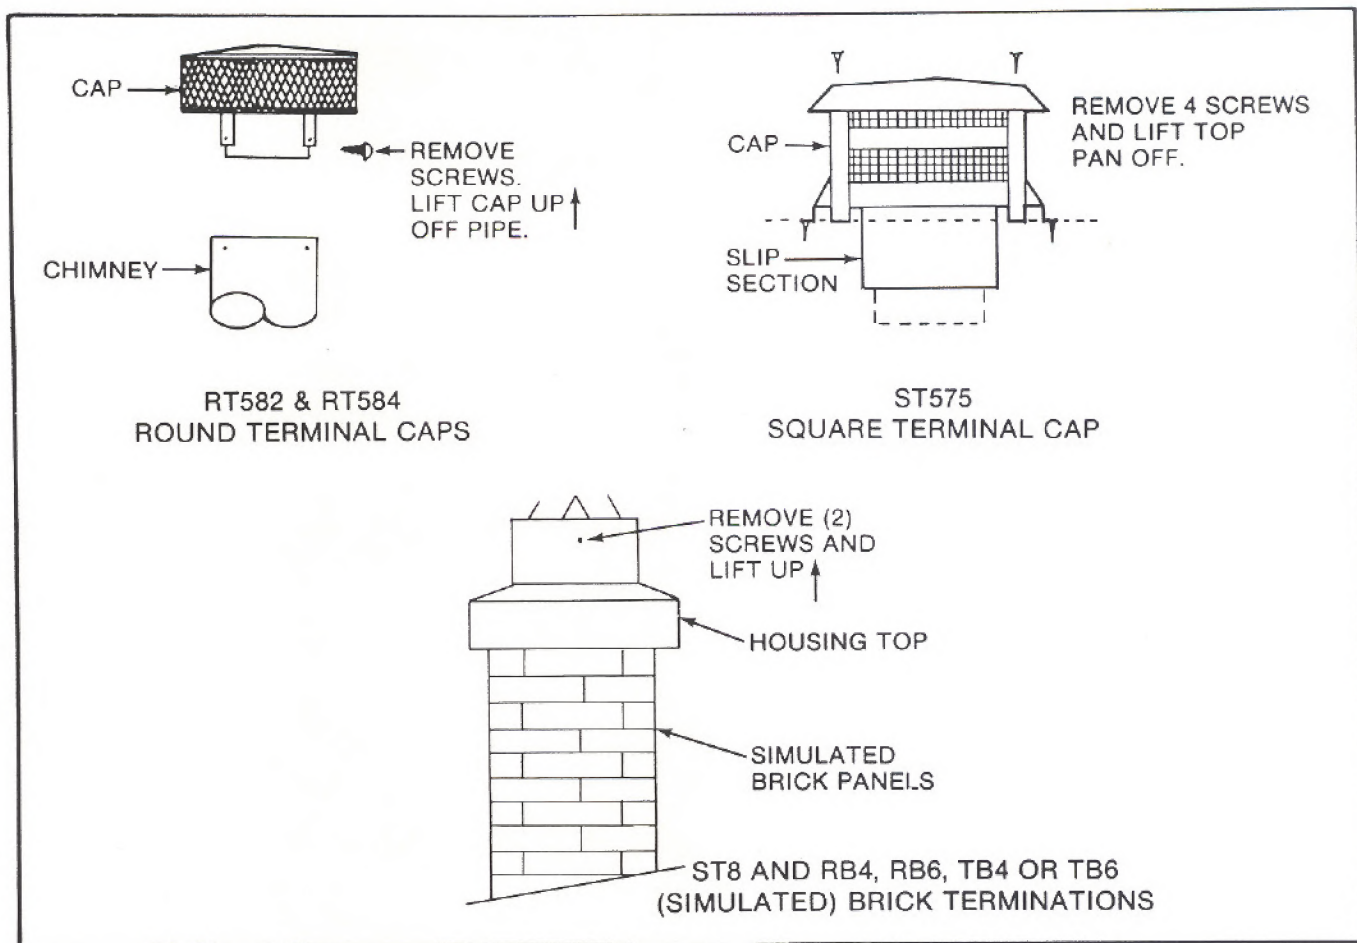

Figure 1
3. Remove the Terminal Cap or Housing Top. See Figure 1.